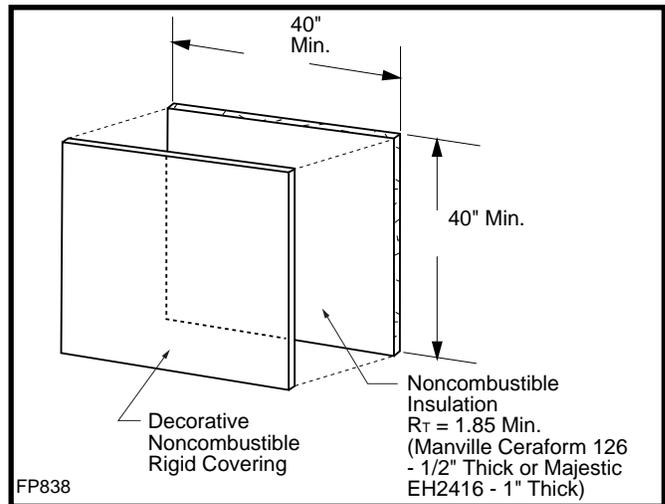
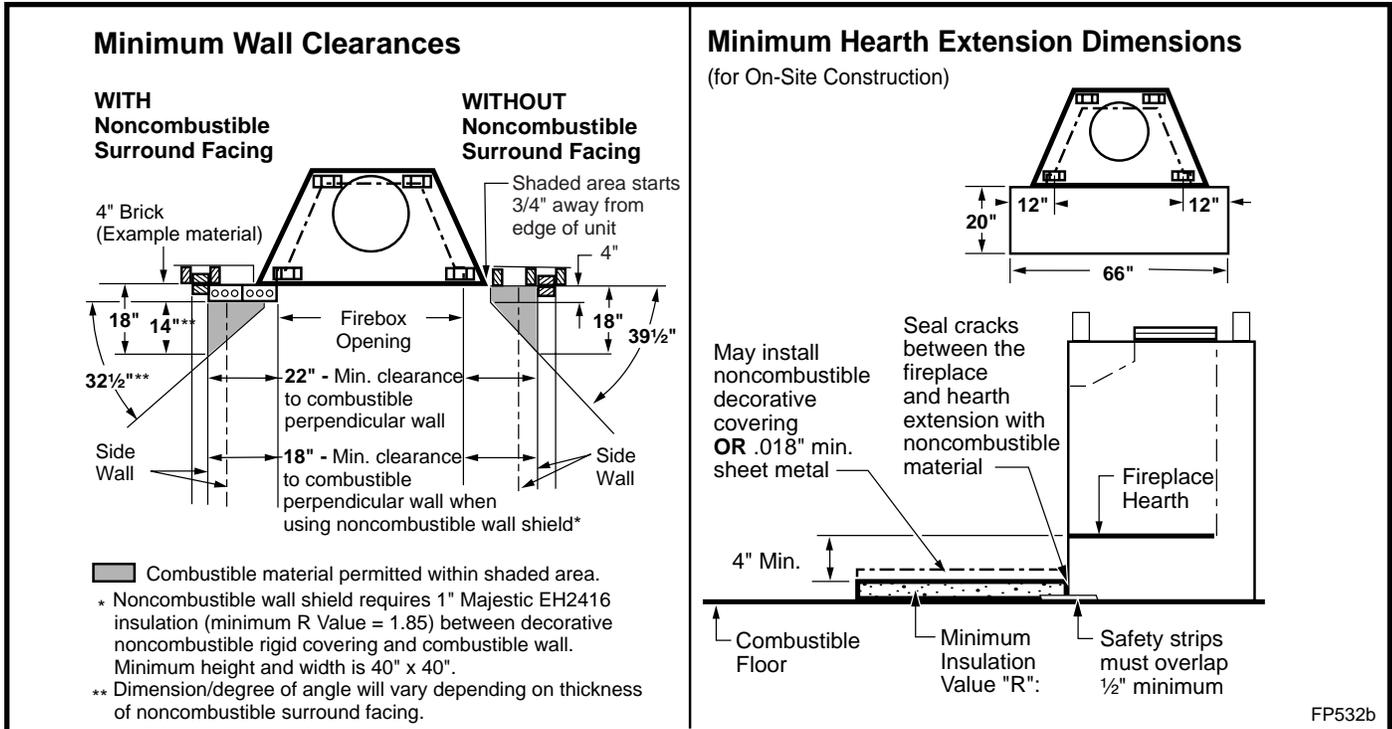

Fig. 22 Noncombustible wall shield dimensions.
Fig. 24 Combustible side wall protection and hearth extension dimensions.
Adjacent combustible side walls that are within dimensions shown in Figure 24 of fireplace opening must be protected with Vermont Castings, Majestic Products Wall Shield Model SP40 or a specifically built wall shield described in Figure 22.
The special wall shield design described in Figure 22 is an alternate method of adding protection to side walls and can be used in place of the SP40 with the same wall clearances specified for the SP40. R_t must = 1.85 minimum.
A hearth extension is required to protect a combustible floor in front of the fireplace. See Figure 24 for minimum dimensions and mounting detail.
The hearth extension described in Figure 24 must be a durable noncombustible material with a minimum (total) Rt value of 1.09; see Figure 25 for examples. The overall height (above a combustible floor), depth and width must be as indicated, with the extension centered to the fireplace opening.
The top of insulation must be covered with a non-combustible decorative covering or a piece of .018" minimum sheet metal, to protect hearth extension material. (Fig. 24)
Secure the hearth extension to the floor to prevent shifting, using trim molding or other similar means at three (3) outer edges. Seal crack between the fireplace hearth and hearth extension with a noncombustible material. (Figs. 24, and 26 - 28)
WARNING: HEARTH EXTENSION MUST BE INSTALLED IN ACCORDANCE WITH FIGURE 24.